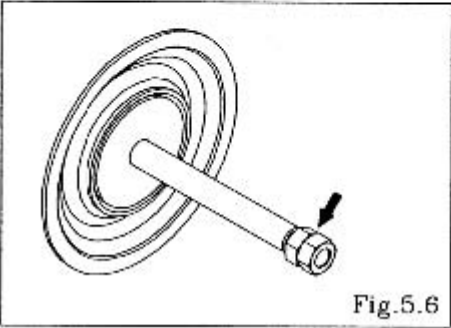

Fig.5.6
- Fix a double nut to one end of the center rod and take the diaphragm and center disk off the opposite end. [Fig. 5.6] Be careful not to scratch or score the center rod.